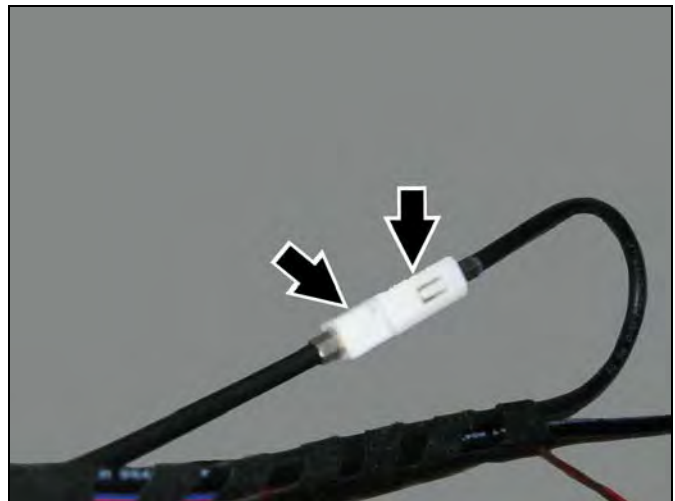

Figure 4
4. Find the coupled Tele Aid leads among the cable connectors removed from the cloth sock and disconnect them (Figure 4).